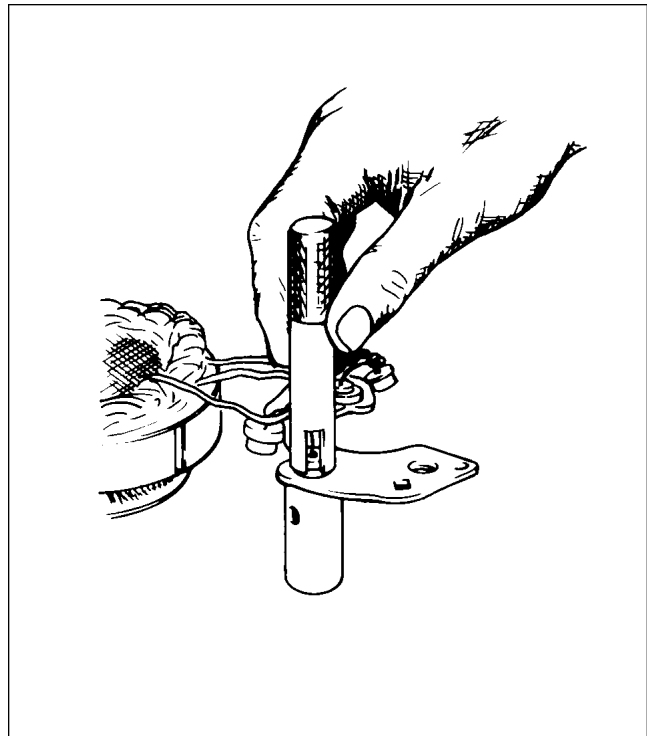

Figure 24-51. Installation of Rectifier
- b. Carefully install rectifiers in slip ring end head or rectifier mounting plate by supporting unit and using special tools illustrated in Figure 24-51.